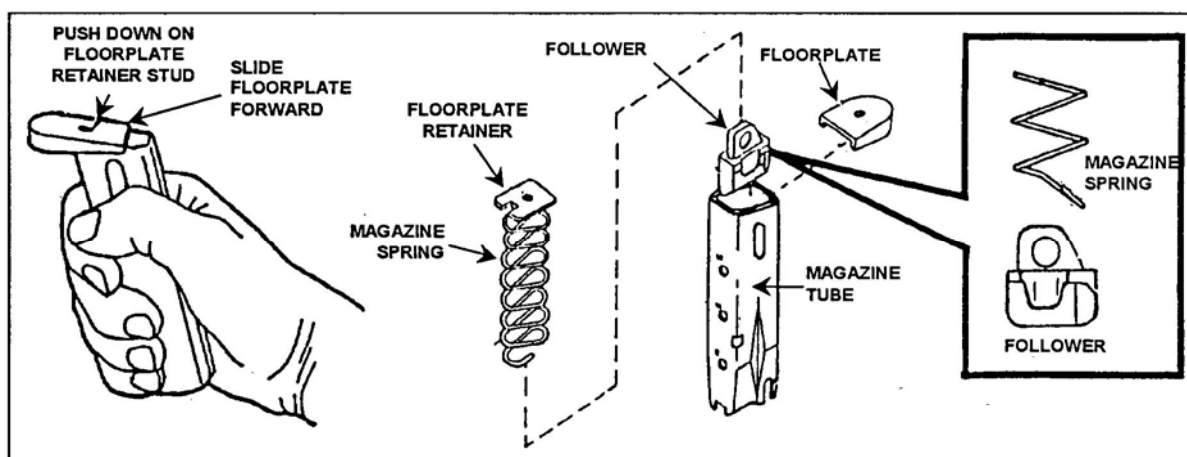

Figure 4. Disassembly of the magazine.
- i. Disassemble the magazine (Figure 4).
## d. Magazine (Figure 4).
## e. Magazine assembly (Figure 4).